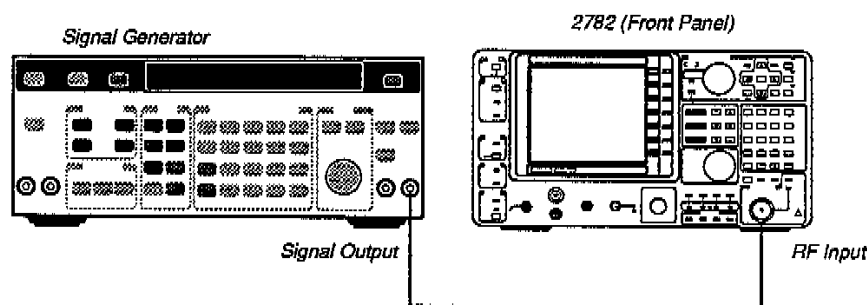

Figure 2-12. Test Equipment Setup for Steps 91-94 of Resolution Bandwidth Shape Factor Check.
- b. Connect the signal generator (item 8 in the equipment list) to the 2782 RF INPUT connector (as shown in Figure 2-12), and set the generator for an output-signal frequency of 100 MHz and an amplitude level of 0 dBm.